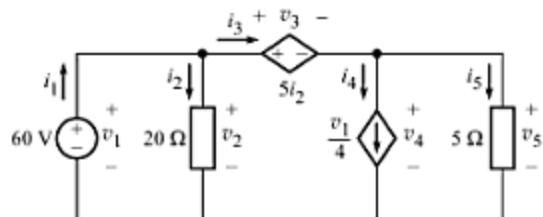

Fig. A-112
- A-79. (a) Use Ohm's law and Kirchhoff's laws to evaluate all the currents and voltages in the circuit of Fig. A-112.